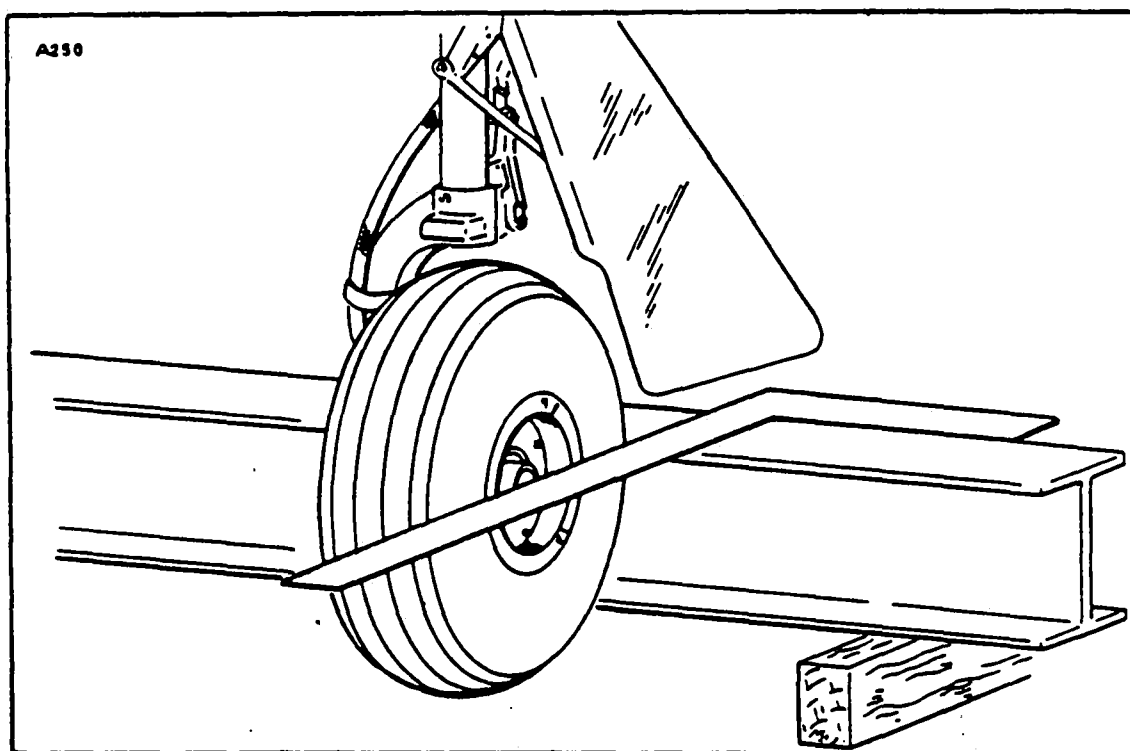

Figure 7-11. Aligning Main Gear
- b. Set a square against the straight edge and check to see if its outstanding leg bears on the front and rear sides of the main landing gear tire. (Refer to Figure 7-11.) If it touches both outboard sides of the tire, the landing gear is correctly aligned. The toe-in for the main landing gear wheels is 0 degrees.